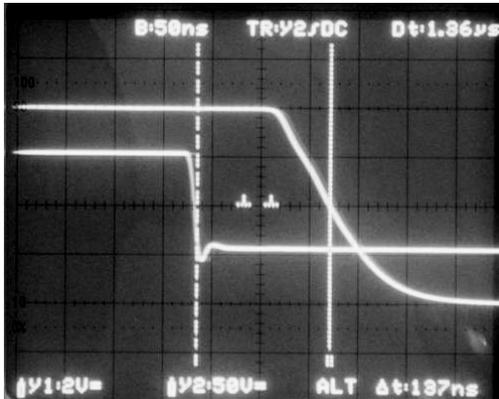

Figure 12. Input to output delay time = 140ns
- Input to output delay time (Fig. 12)